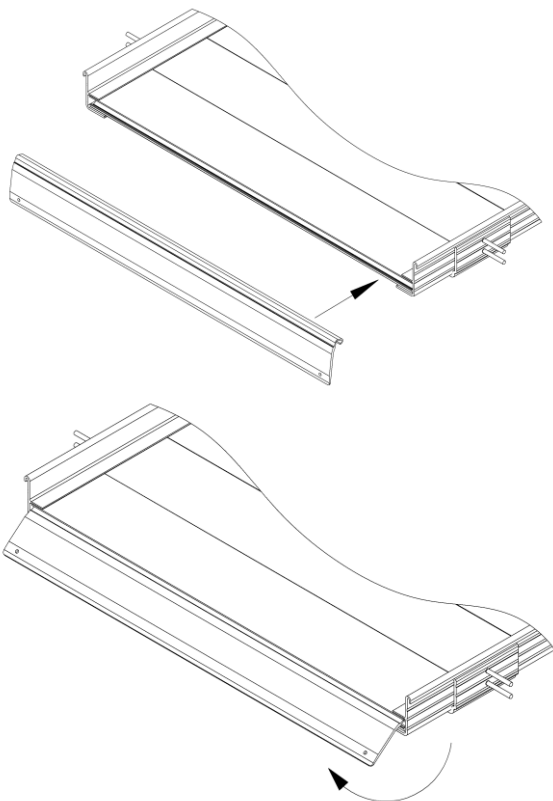

FIG. 4.14
- 4.5.4. Place the upper end of the ramp onto the supporting surface (i.e., platform, porch, etc.). Once the ramp is resting on the porch or platform, lift the upper end of the ramp and install the Ramp Upper Transition into what will be the upper end of the ramp (FIG. 4.14).